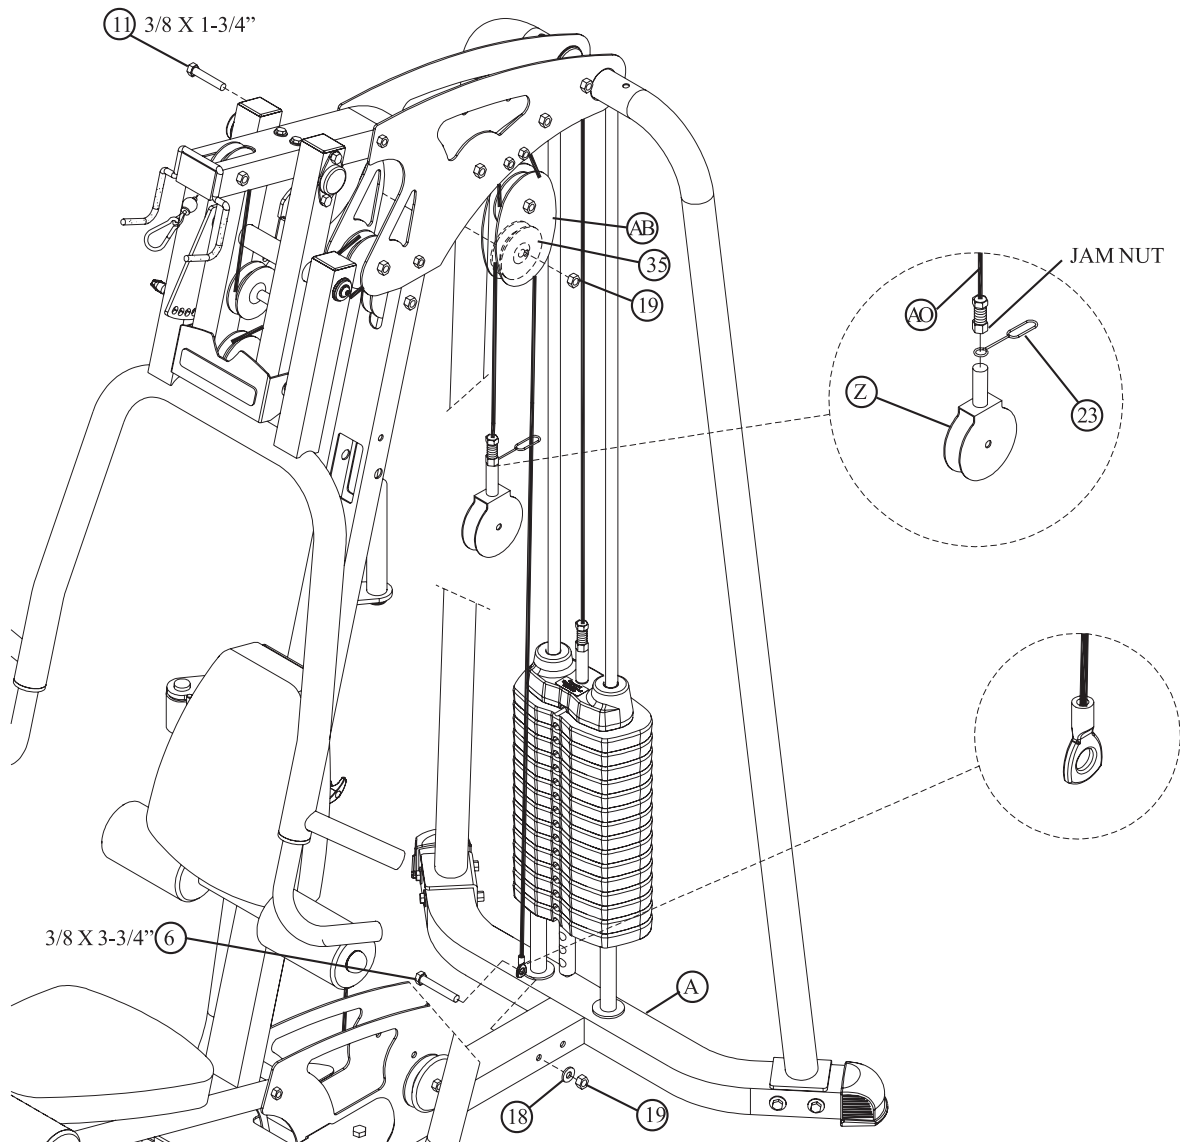

FIGURE 19
- Screw the threaded end of the GUIDE CABLE (AO) into the end of the FLOATING PULLEY BRACKET (Z). Secure the CABLE GUIDE (23) in place with the JAM NUT on the GUIDE CABLE. See FIGURE 19.
- Route the GUIDE CABLE (AO) around one 3-1/2" PULLEY (35) and assemble the PULLEY to the FLOATING PULLEY PLATES (AB) using one 3/8 X 1-3/4" BOLT (11) and one 3/8" SILVER LOCK NUT (19). See FIGURE 19. **(Note: Make sure the cable runs in the grooves of the pulleys.)**
- Route the hook end of the GUIDE CABLE (AO) thru the CABLE GUIDE (23) then the GUIDE CABLE (AO) to the BASE using one 3/8 X 3-3/4" BOLT (6), one 3/8" WASHER (18) and one 3/8" SILVER LOCK NUT (19) as shown in FIGURE 19.